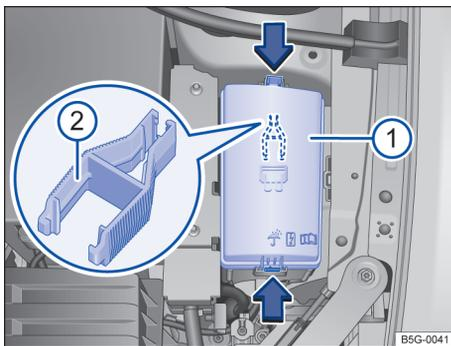

Fig. 157 In the engine compartment: Fuse box cover **①** with tweezers **②**.
- *To remove:* Press the release tabs in the direction of the arrows → **fig. 157** to unlock the fuse box cover **①**.
In some vehicles, there are plastic tweezers for removing fuses on the inside of the fuse box cover → **fig. 157** **②**.